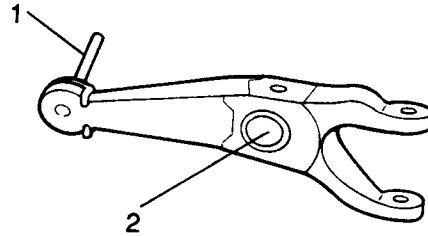

Fig H1.25
(4) Refer to Fig H1.25. Replace the supporting bush (2) in the pivot.
(5) Fit the push rod (1) to the clutch lever and secure with the plastic clip.